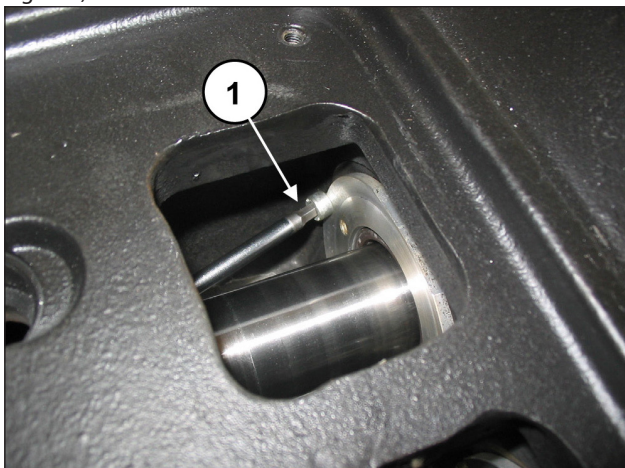

Fig. 117
Unscrew the two screws locking the oil seal cover (pos. ①, Fig. 117).